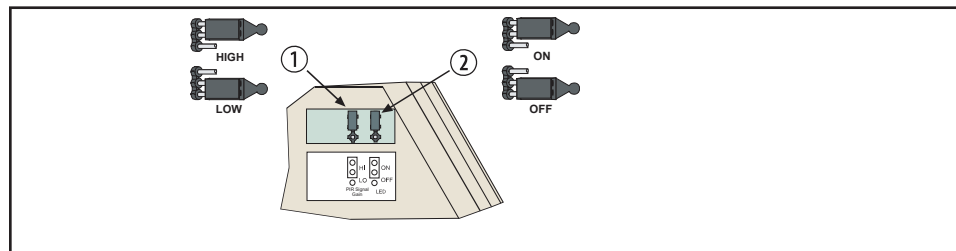

Figure 5.1: Feature Selection
Refer to *Figure 5.1*. For selection, place the plug across the appropriate pins (1). No jumper across the “HIGH/LOW” pins puts the detector in a “High” setting. Low Sensitivity (LO): The recommended setting for most installations. This setting tolerates environment extremes. **The detector is shipped in Low Sensitivity mode.** High Sensitivity (HI): Use in locations where adequate catch performance is not achieved in the Low Sensitivity mode. This setting tolerates only minor environmental changes.
Refer to *Figure 5.1*. The ON position allows operation of the LED (2). If LED indication is not desired after setup and walk tests are completed, place in the OFF position. **No jumper across the “ON/OFF” pins disables the LED.**